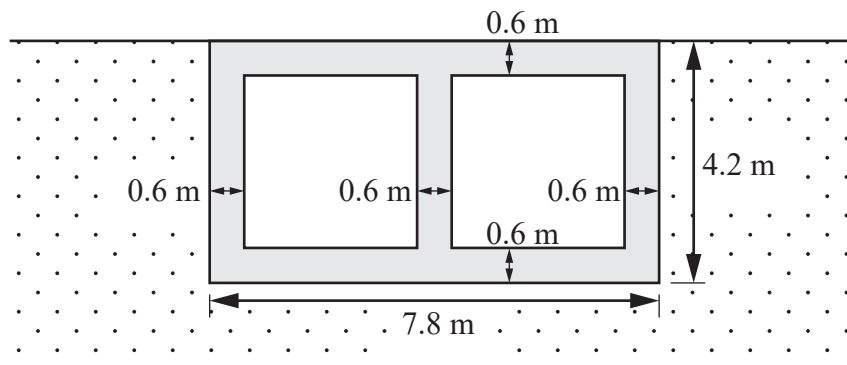

Fig. 2
- (c) A tunnel is constructed using the cut-and-cover method in a dry sandy soil layer overlying bedrock. The cross-section of the tunnel is shown in Fig. 2. The slab and wall thicknesses are all 0.6 m. The unit weight of concrete is 24 kN m^{-3} . The sandy soil has a void ratio of 0.85, a Poisson's ratio of 0.3 and the sand particles have a specific gravity of 2.65. The reference plane can be taken as 1 m below the base slab. Consider a tunnel section of 1 m into the plane of the paper.